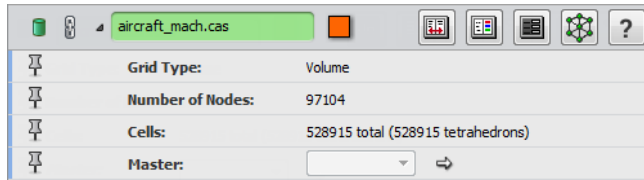

Figure 18.67: Properties area of the model
- Select the model in the *Project View*. Details about it appear in the Properties area (see Figure 18.67).